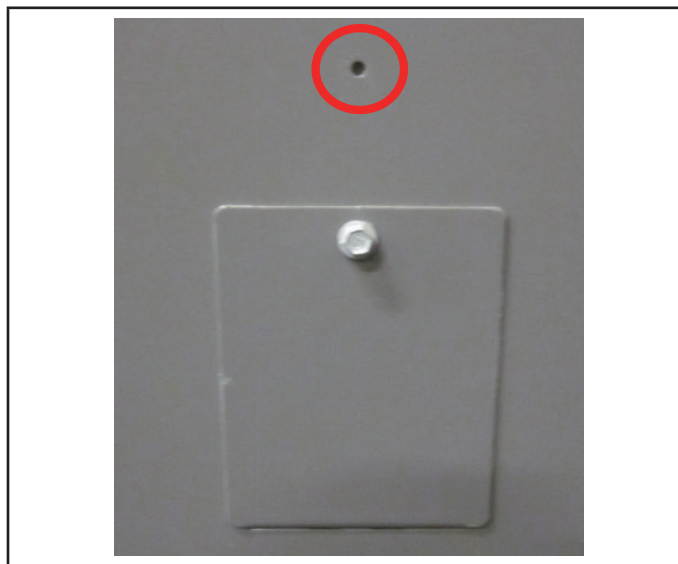

FIGURE 9. Circuit Breaker Cover Plate
NOTE – If electric heat kit has only one circuit breaker, the breaker cover plate needs to be moved up and installed over the opening without the circuit breaker. Fasten the breaker cover plate to the access panel using the circled hole in figure 9. If the electric heat kit has two circuit breakers, the breaker cover plate is not required.
- 3 - For applications using a two-stage room thermostat and/or an outdoor thermostat, connect wiring as shown in figures 9 and 10.